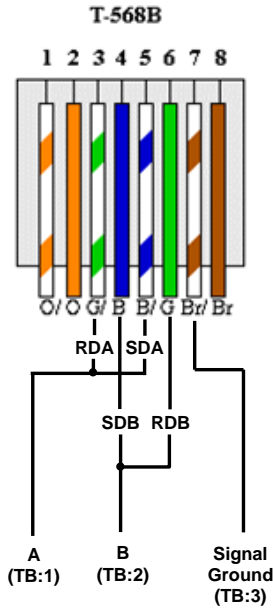
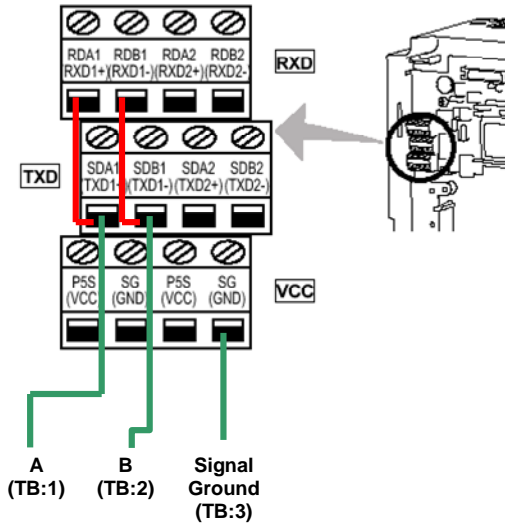

Figure 34: PU Port Connections
Figure 35: 700-Series ASD Connections
Connect as shown in Figure 34.
- For 700-series drives, the gateway can connect to the ASD via either the PU (panel) connector as indicated in Figure 34, or via the on-board RS-485 terminals. Because both of these ports externally present a 4-wire RS-485 network, connecting them to the gateway requires jumpering the network wires for 2-wire format (i.e. connecting SDA-RDA and SDB-RDB). When using the on-board RS-485 terminals, connect as shown in Figure 35.